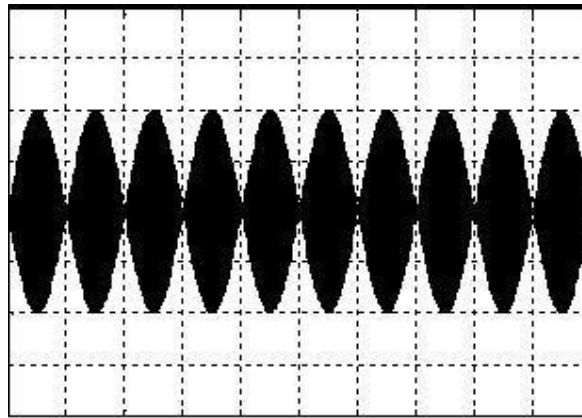

Fig 3.2
7. Vary the Frequency and Amplitude of Audio Generator section and observe the changing in the modulated waveform as shown in Fig 3.2